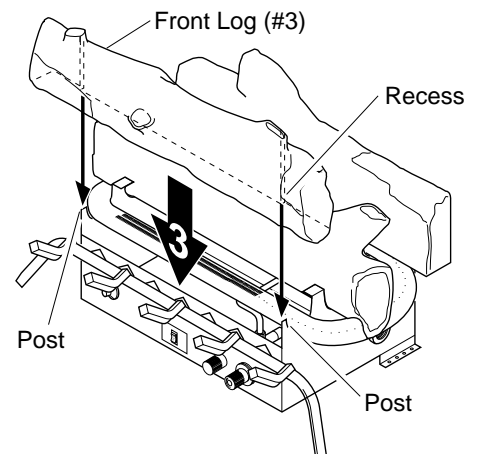

Figure 24 - Installing Front Log (#3)
3. Locate the recesses on the back of the front log (#3). Fit these recesses between the posts of the grate base (see Figure 24).